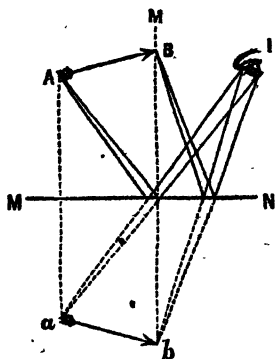

FIG. 7.
1. When the mirror is plane, as in Fig. 7, by the laws of reflection already stated, a is the focus of all the rays coming from A . Similarly, b is the focus of all the rays from B . Rays from all the points between A and B have their foci between a and b . Thus a complete image of $A B$ is formed in $a b$. The